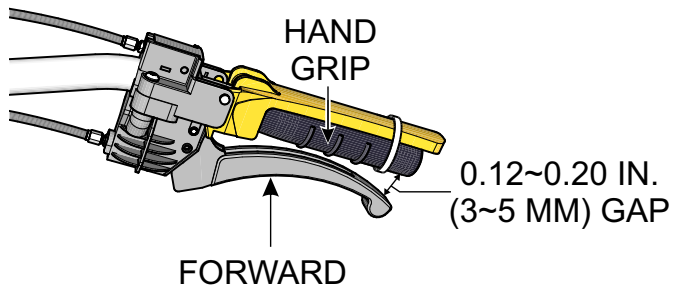

Figure 48. Forward Control Lever Gap
3. Fully squeeze the **forward** control lever and verify that a 0.12~0.20 inch (3~5 mm) gap (Figure 48) exists between the control lever and the handle bar/hand grip.